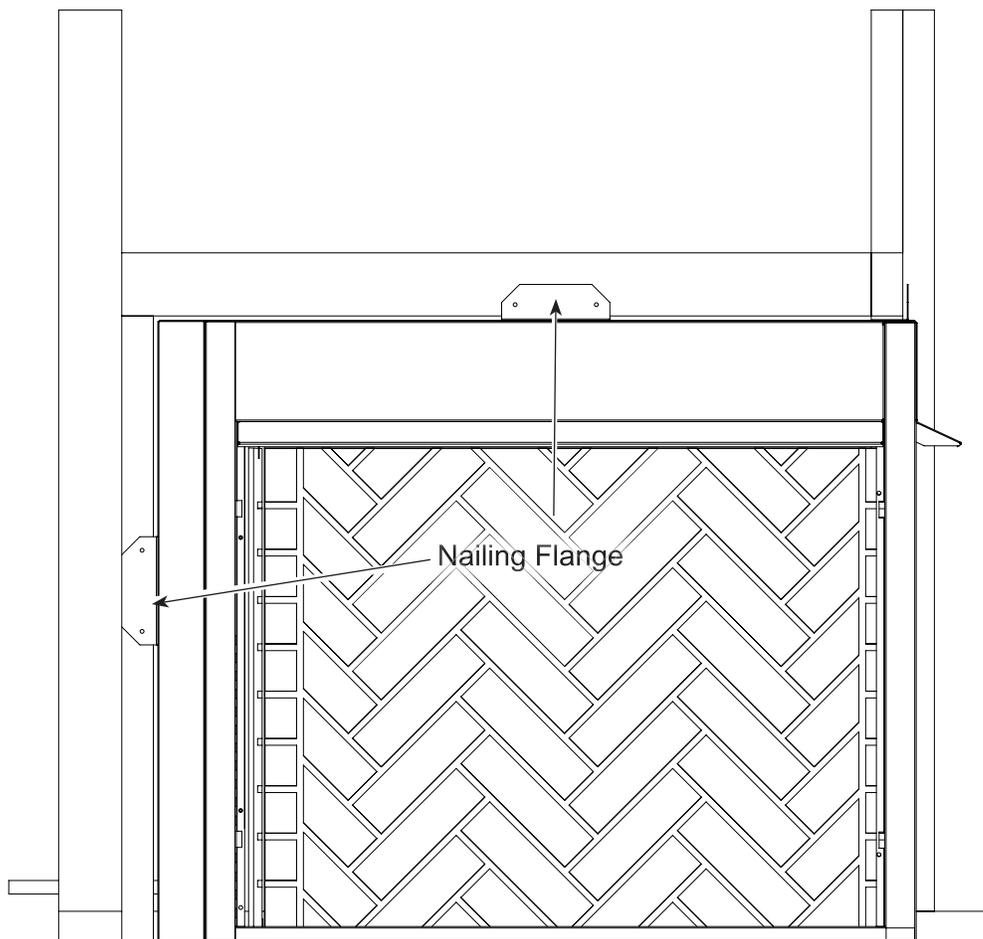

Figure 18 - Location of Nailing Flanges and Floor Screws
4. Attach nailing flanges to studs. *See Figure 18.*